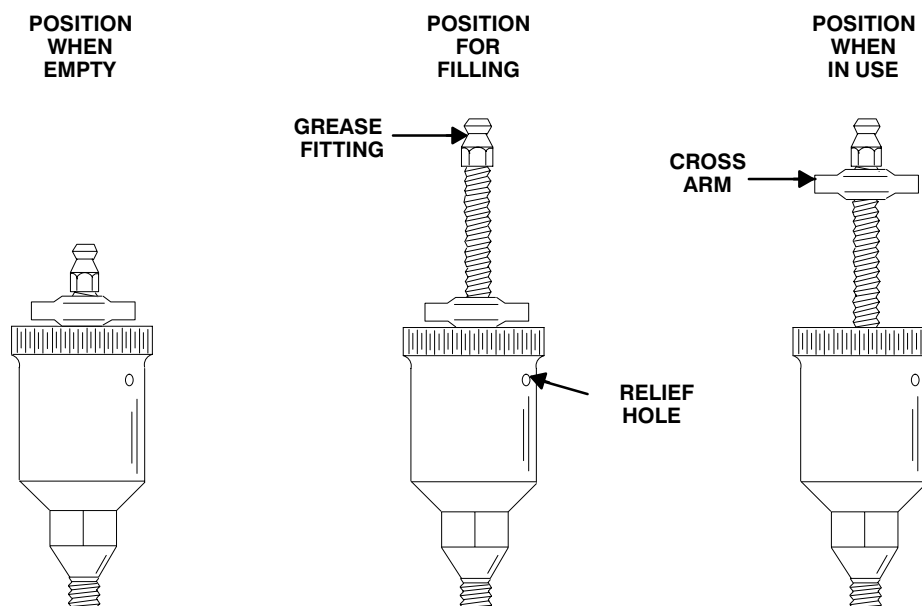

Figure 4. Automatic Lubricating Grease Cup
Before removing the impeller, turn the cross arm on the automatic grease cup (11) clockwise until it rest against the cover (see Figure 4). This will prevent the grease from escaping when the impeller is removed. Remove the grease cup (11).
Fill the grease cup (11) through the grease fitting with No. 2 lithium base grease until grease escapes from the relief hole. Turn the grease cup arm counterclockwise until it is at the top of the stem; this will release the spring to apply grease to the seal (see Figure 4).